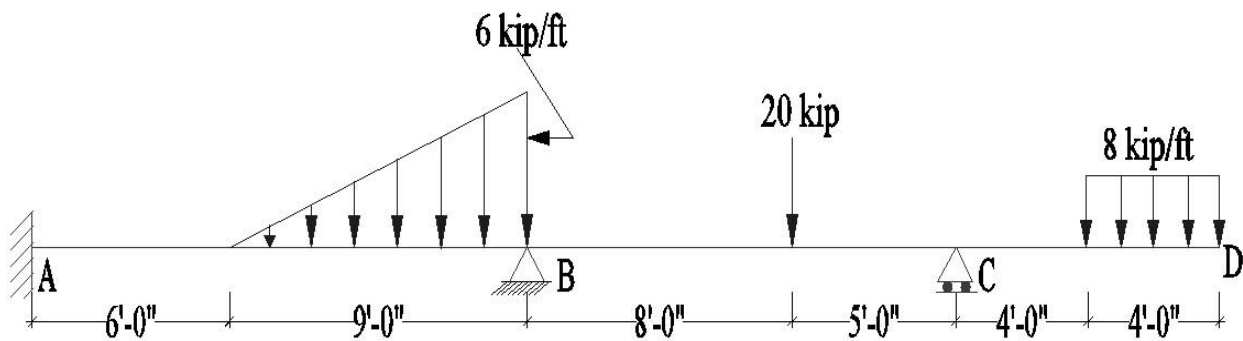

Fig: 2.13
- 1) Analyze the following beam under vertical loads and find out the following values; (Fig: 2.13) a) Supports Reactions